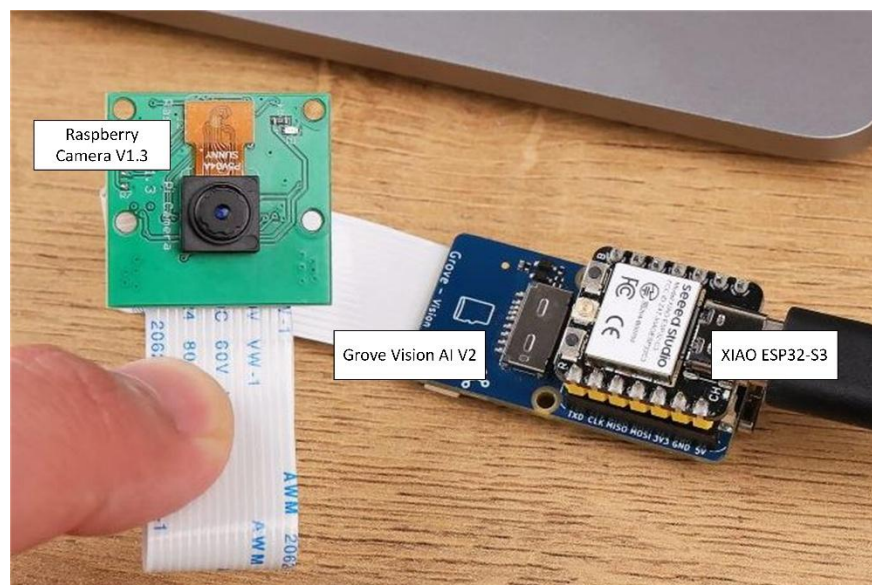

Figure 1. Principal components
1. Attach the **Raspberry Camera V1.3** to the **Vision AI module** (see Figure 1. Principal components)